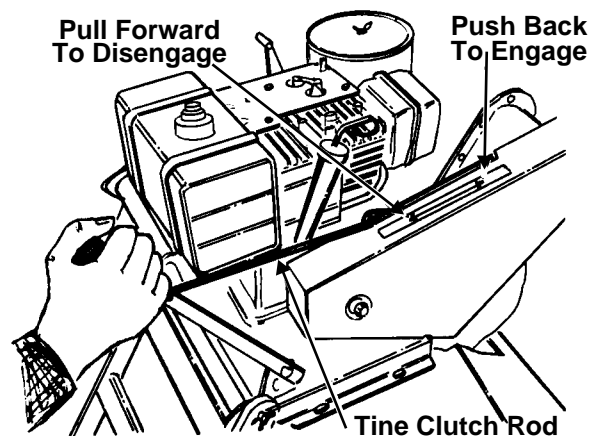

Figure 14
2. Place the tine clutch rod in the disengaged position. See Figure 14.